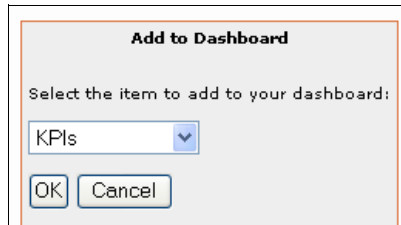

Figure 10-89 Add to Dashboard panel
6. In the Add to Dashboard panel (Figure 10-89), select **KPIs** and click **OK**.